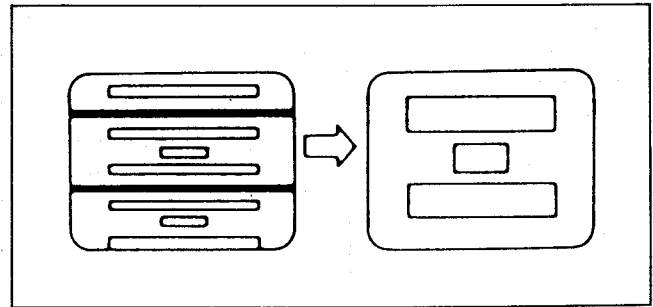

Fig. E2
- (1) Aim the camera at the gray scale chart.
- (2) Adjust the vertical size (VR801) so that the vertical size is correct and the picture does not roll as shown in Fig.E2.